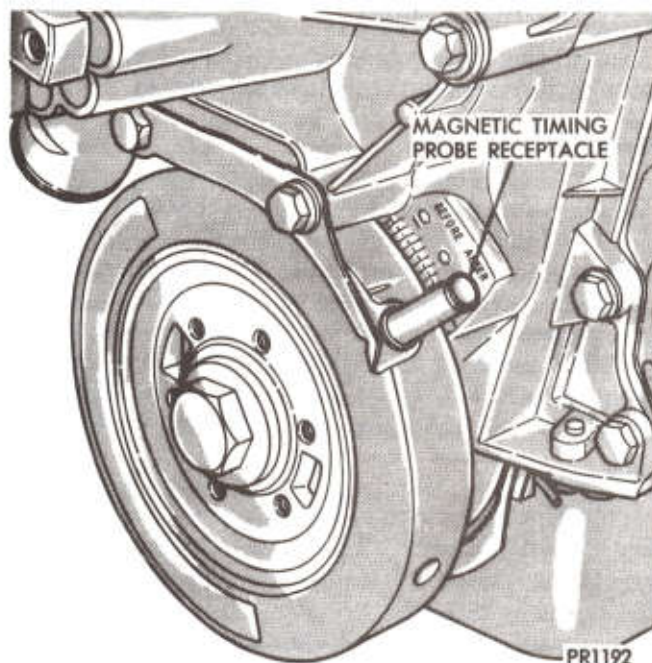

Fig. 6—Magnetic Timing Probe Receptacle 8 Cylinder Engine
- (6) Disconnect and plug vacuum line at distributor.
- (7) Read engine rpm on 1000 rpm scale. If engine rpm is at or below curb idle specified on label, proceed to next step. If it is higher, turn idle speed screw until specified curb idle rpm is reached.
(8) Aim power timing light at timing plate on chain case cover (Figs. 6 and 7) or read magnetic timing unit. If timing is within $\pm 2^\circ$ of value specified on label, proceed to Step (9). If outside of specified tolerance, proceed to next step.
(9) Loosen distributor hold-down arm screw just enough so distributor housing can be rotated in its mounting. Turn distributor housing until specified label value is reached.